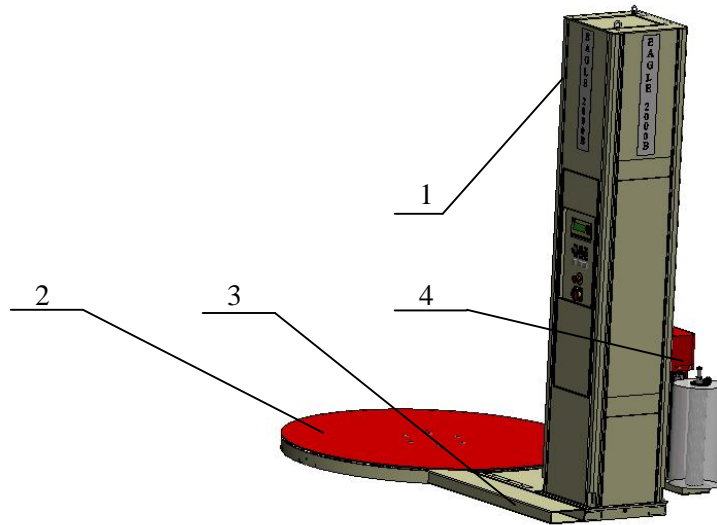

Fig 2-1
2.1.1 Machine Structure and Main Components Illustration (Fig 2-1)